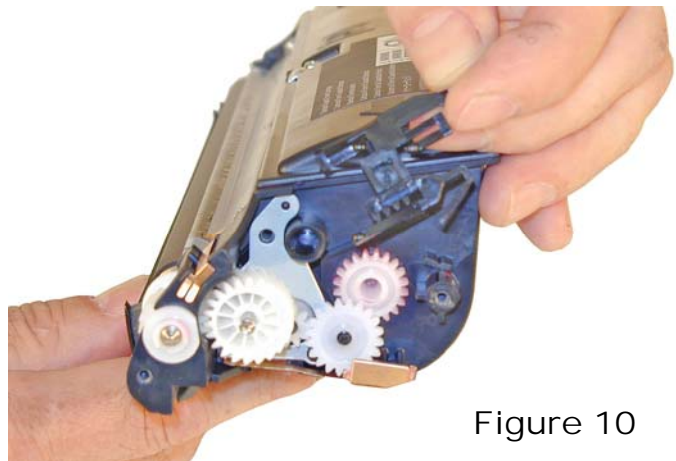

Figure 10
4) Remove the black reset gear train. See **Figure 10**